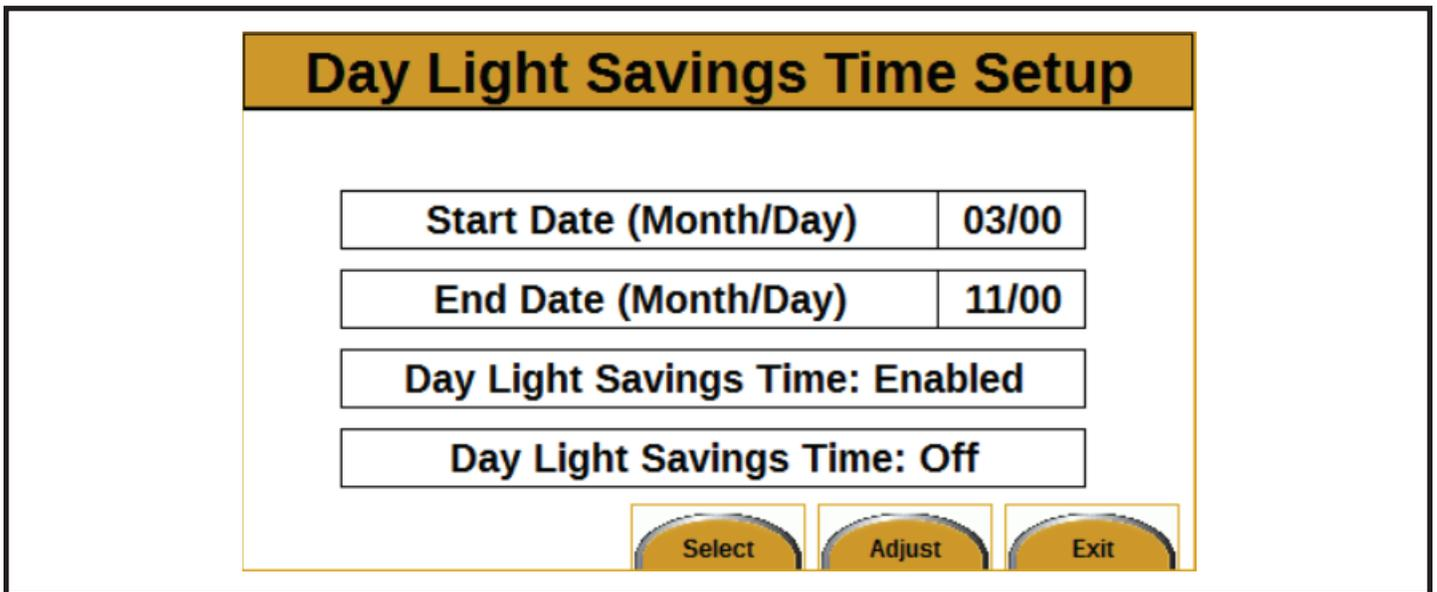

Figure 15
7. Press the Adjust button. The Day Light Savings Time Setup screen will appear (see Figure 15).